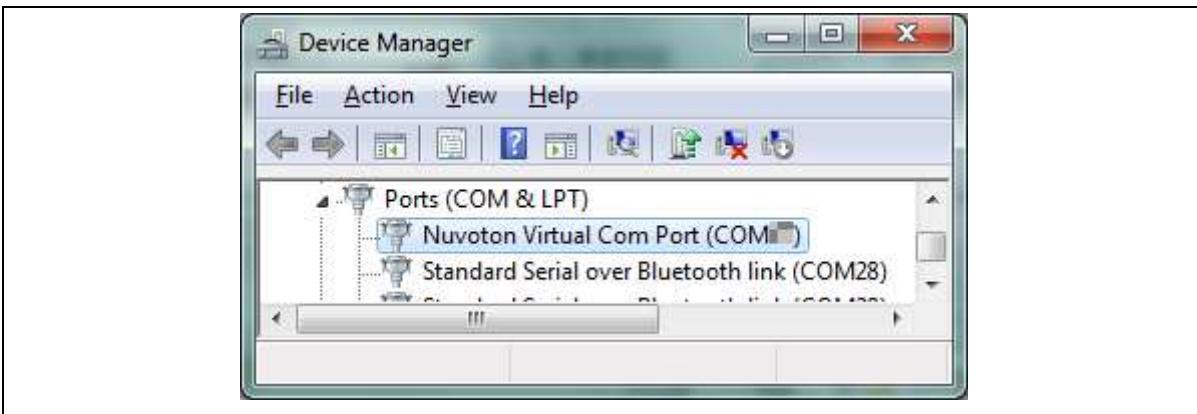

Figure 3.4-3 Device Manager
3. Find the "Nuvoton Virtual COM Port" on the Device Manger as Figure 3.4-3.